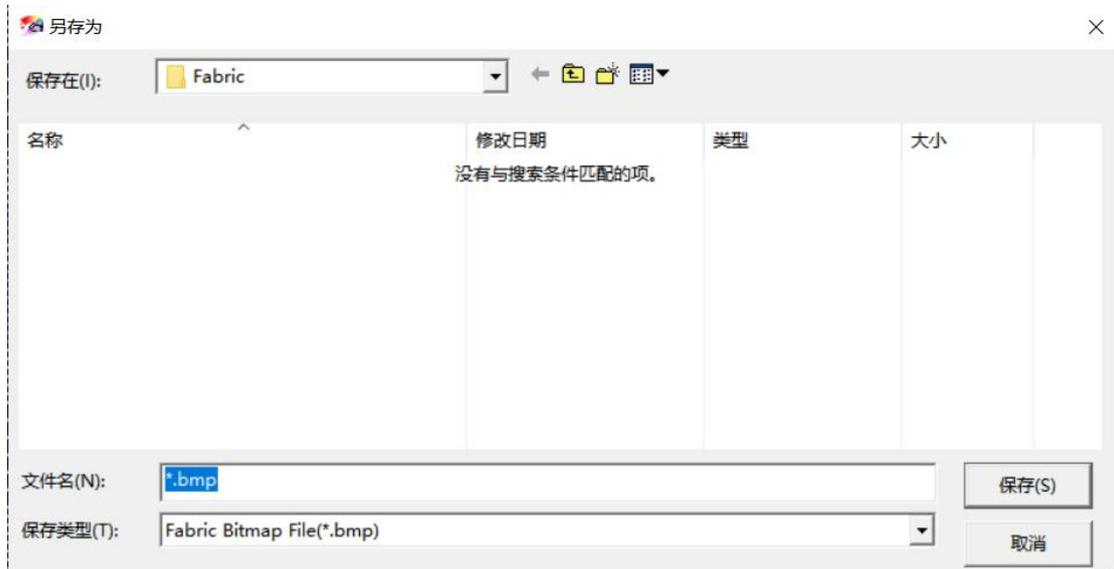

Figure 5-52 Save Fabric Bitmap dialog box
2. A dialog box will pop up if the fabric selection box is valid (Figure 5-52).